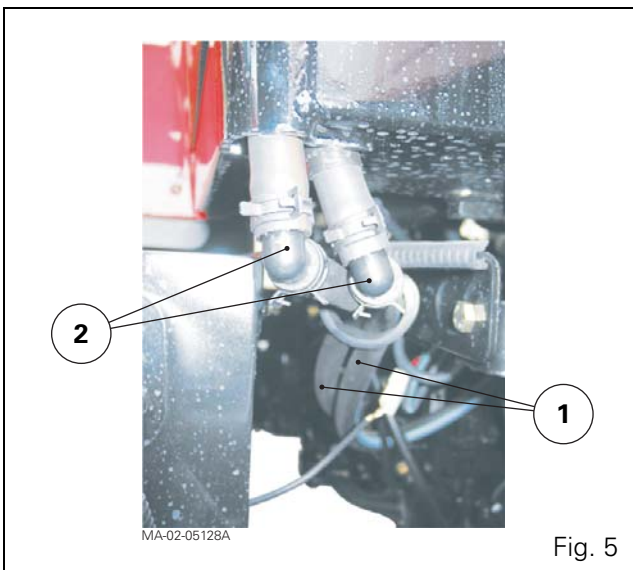

Fig. 5
17. Mark the heating hoses (1) (Fig. 5) at the base of the cab right-hand pillar.
Pinch them both upstream and downstream of the square unions (2) (Fig. 5) in order to keep fluid loss to a minimum.